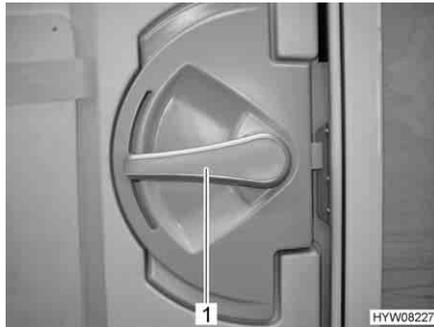

Fig. 30 Door lock of conversion door, inside
- Push the handle (Fig. 30,1) down.
- Turn the handle (Fig. 30,1) approx. 45° upward and leave it in this position.